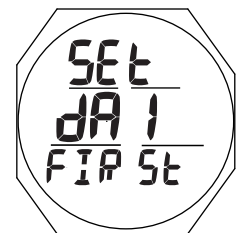

Fig. 110B - SET DA1 FIRST MESSAGE
**If DA 1 (or DA 2) is set OFF, a Set DA 1 (or 2) First message will be displayed (Fig. 110B) when attempt is made to access Set DA 2 (or 3).**